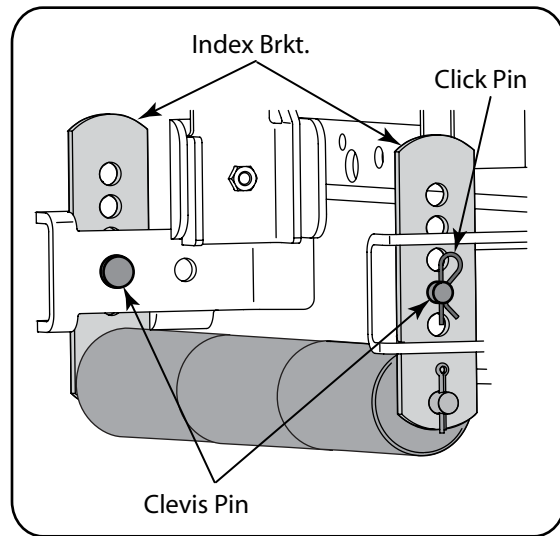

Figure 6-10
- While supporting the roller assembly, remove click pin and withdraw the clevis pin from both the left and right roller index brackets. See Figure 6-10.
- Align the nearest index bracket holes with the holes in the deck mounting brackets. Insert the clevis pins through the deck brackets and the index brackets and secure with the click pins. See Figure 6-10.